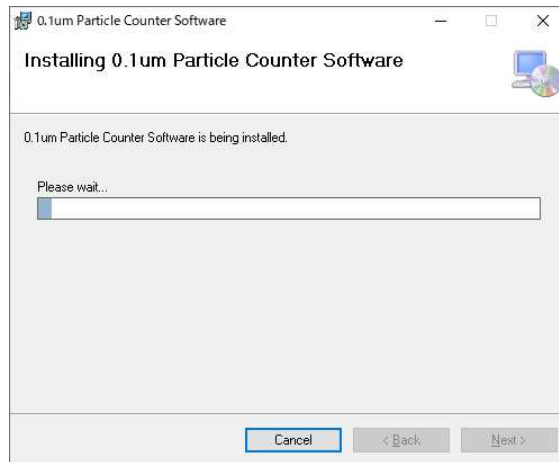

Figure 2-4 Installation progress Dialog Box
4) Click the **Next** button to display the dialog box as shown in Figure 2-4.